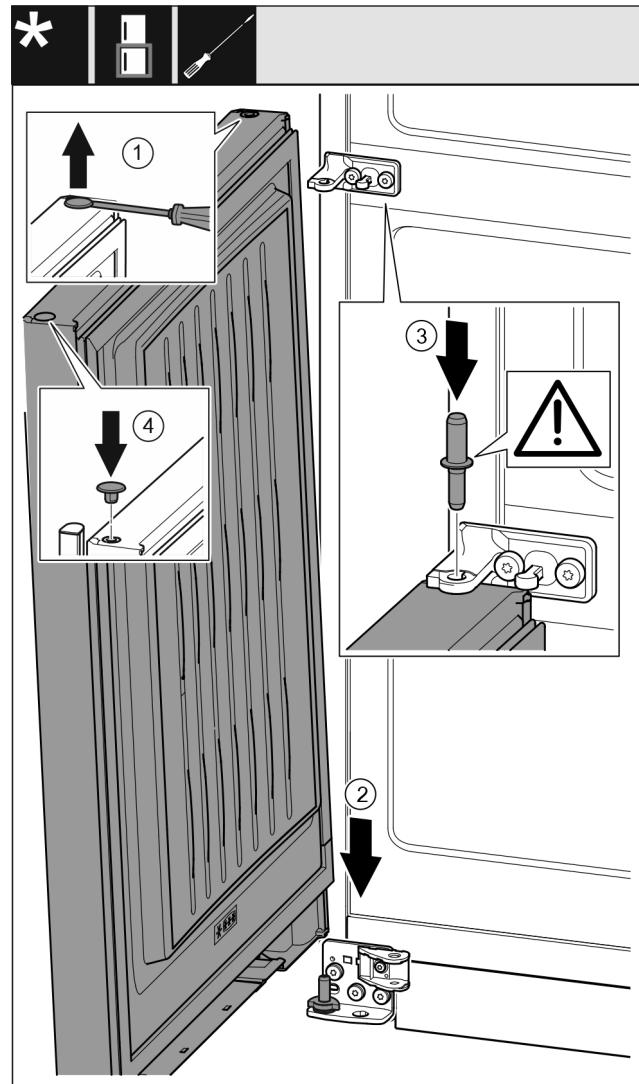

Fig. 44
- ▶ Carefully lift the plug Fig. 44 (1) with a slotted screwdriver and pull it out.
- ▶ Fit the door Fig. 44 (2) onto the lower bearing pin from the top.
- ▶ Insert the center bearing bolt Fig. 44 (3) through the center swap bearing block into the bottom door. In the process, make sure that the latching cam shows towards the rear.
- ▶ Reinsert the plug Fig. 44 (4) on the other side of the door.